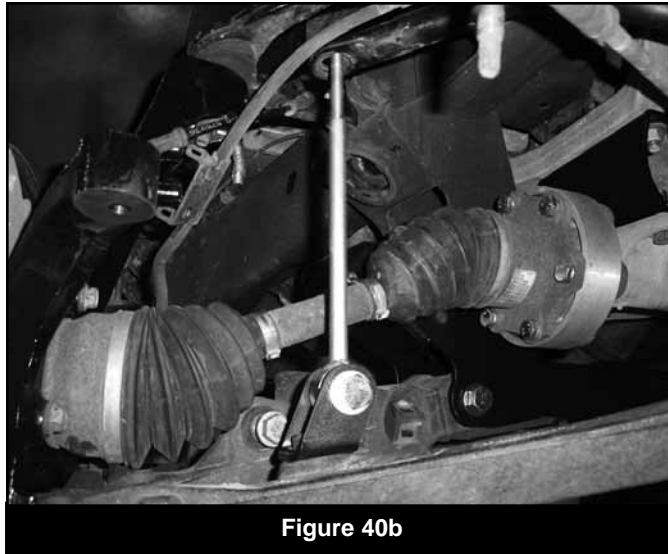

Figure 40b
72. Locate the new front sway bar links (911109), small hourglass bushings (SB35BK) and 0.750" OD x 1.575" long sleeves (54587). Install the bushings and sleeves into the eyes of the links. Install the links into the new brackets on the lower control arms with 9/16" x 2-3/4" bolts, nuts and washers (BP 569). Run the bolts from front to rear and leave hardware loose (Fig 40b).